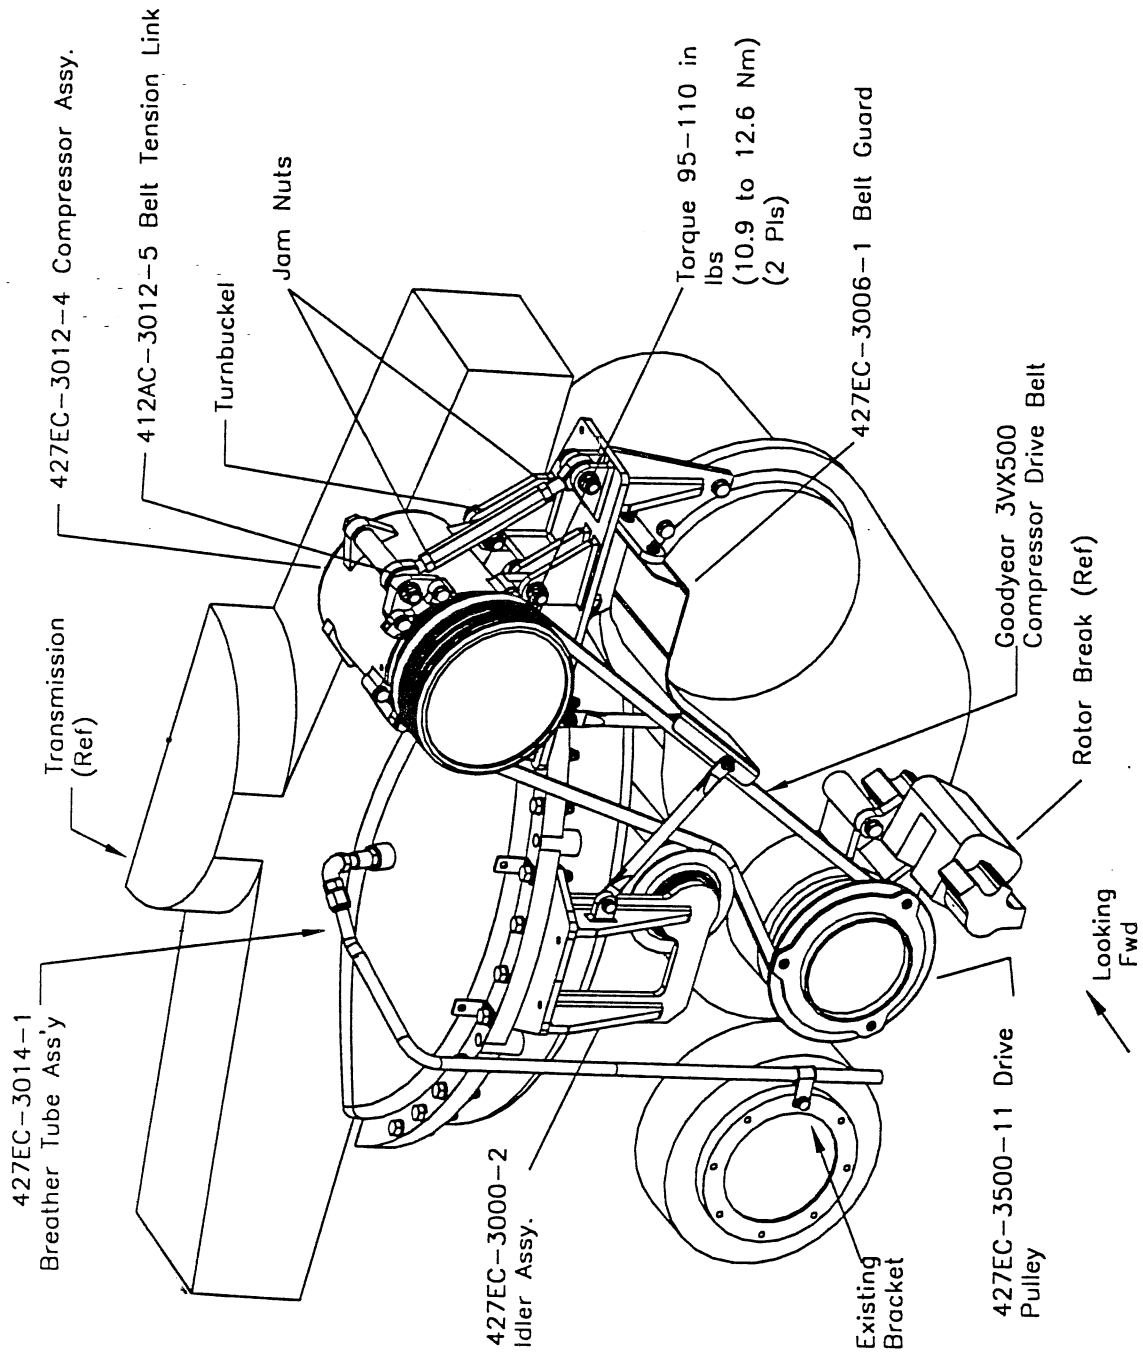

Fig. 1-1'
- A. Cut safety wire on the 412AC-3012-5 Belt Tension Link, and loosen the respective Jam Nuts. (See Fig. 1-1)